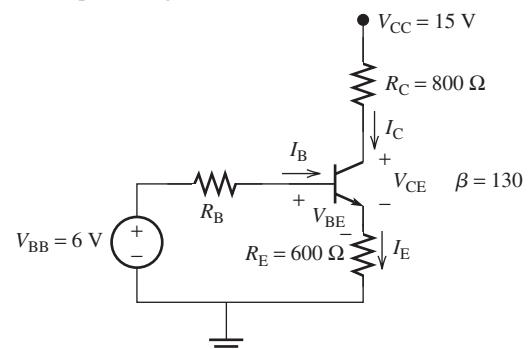

FIGURE P8.40 Transistor circuit for Problem 8.40.
- 8.40** (A)* Determine the value of R_B in Figure P8.40 such that the output voltage is 3.93 V.